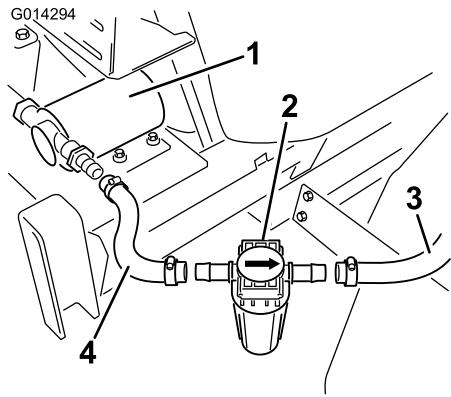

Figure 25
3. Install the filter in-line to the open ends of the hoses coming from the pump and to the rinse nozzles (Figure 25).